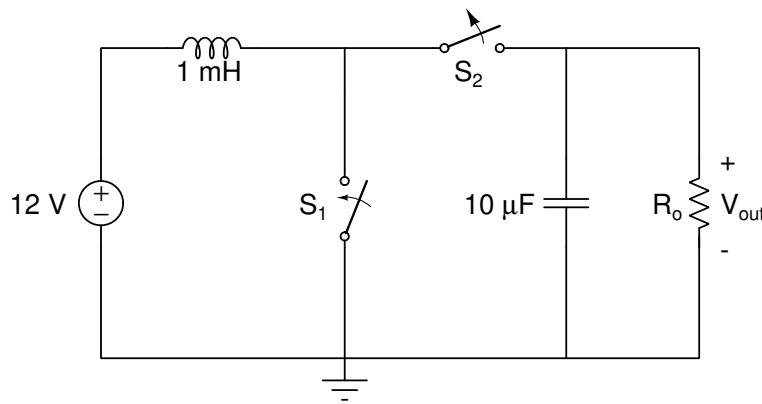

Figure 1: A boost converter circuit containing two synchronized switches.
In this lab, you will design, simulate, build, and test a boost converter based on the switched capacitor circuit shown in **Figure 1**. You will simulate how the output voltage changes over the temperature range between -40° and $+60^{\circ}$ C.
Figure 2: Boost converter circuit implemented with an NMOS transistor driven with a function generator (FG) to represent the switch S_1 and a junction diode to represent the switch S_2 in Figure 1.